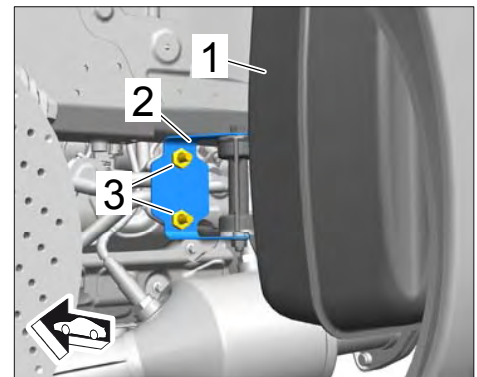

Figure 23
- 3.3 Position main muffler at the left ⇒ *Figure 23*
-1- on the main muffler holder at the front ⇒ *Figure 23 -2-* and secure with two new M8 collar nuts ⇒ *Figure 23 -3-*.